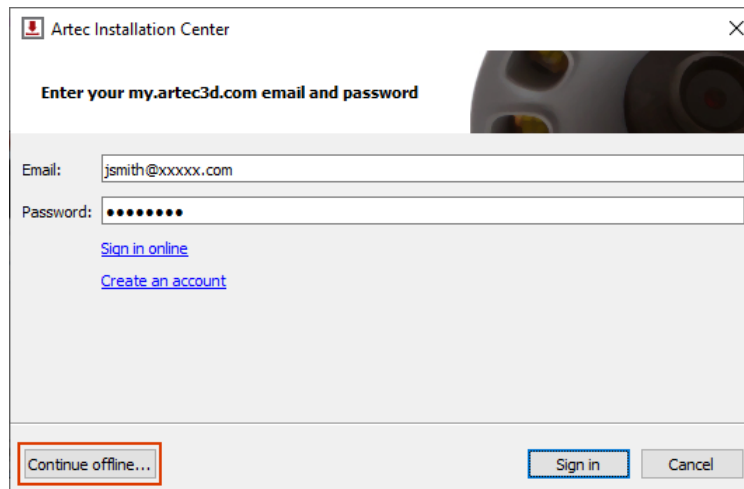

Figure 30: Artec Installation Center authentication dialog
2. During installation the login/password dialog will be displayed as Figure 30 shows. Click *Continue offline...*